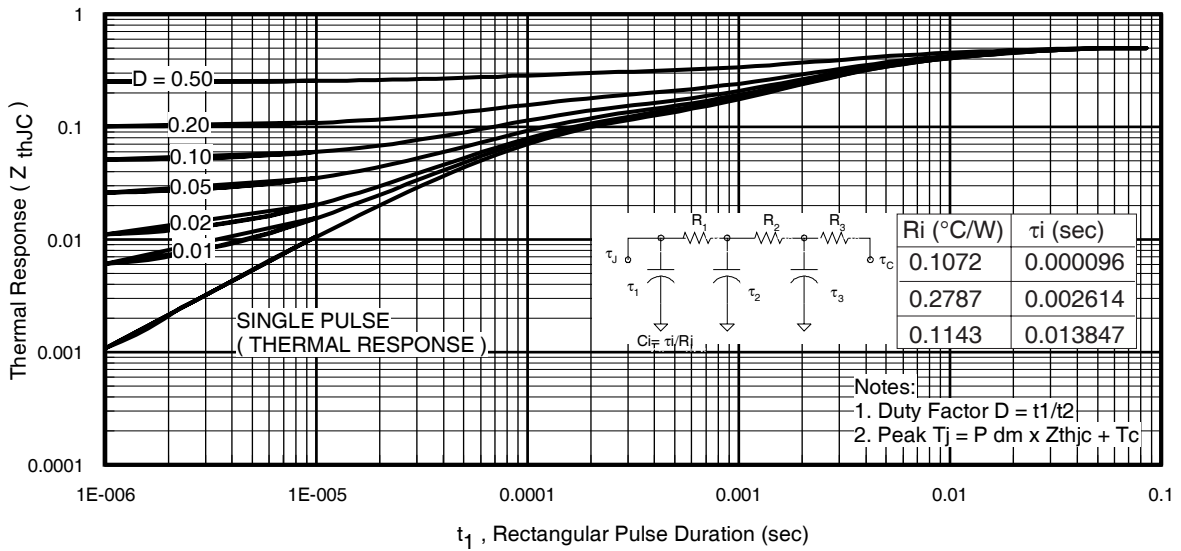
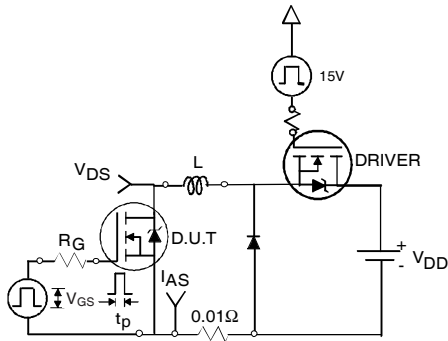

Fig 11. Maximum Effective Transient Thermal Impedance, Junction-to-Case
Fig 12a. Unclamped Inductive Test Circuit
- ① Repetitive rating; pulse width limited by max. junction temperature. (See fig. 11).
- ② Limited by T_{Jmax} , starting $T_J = 25^\circ\text{C}$, $L = 0.026\text{mH}$, $R_G = 25\Omega$, $I_{AS} = 110A$, $V_{GS} = 10V$. Part not recommended for use above this value.
- ③ Pulse width $\leq 1.0\text{ms}$; duty cycle $\leq 2\%$.
- ④ $C_{oss\ eff.}$ is a fixed capacitance that gives the same charging time as C_{oss} while V_{DS} is rising from 0 to 80% V_{DSS} .
- ⑤ Limited by T_{Jmax} , see Fig.12a, 12b, 15, 16 for typical repetitive avalanche performance.
- ⑥ This value determined from sample failure population. 100% tested to this value in production.
- ⑦ This is applied to D²Pak, when mounted on 1" square PCB (FR-4 or G-10 Material). For recommended footprint and soldering techniques refer to application note #AN-994.
- ⑧ R_{θ} is measured at T_J of approximately 90°C .
- ⑨ Solder mounted on IMS substrate.
3. Equation below based on circuit and waveforms shown in Figures 12a, 12b.
$Z_{thJC}(D, t_{av})$ = Transient thermal resistance, see figure 11)